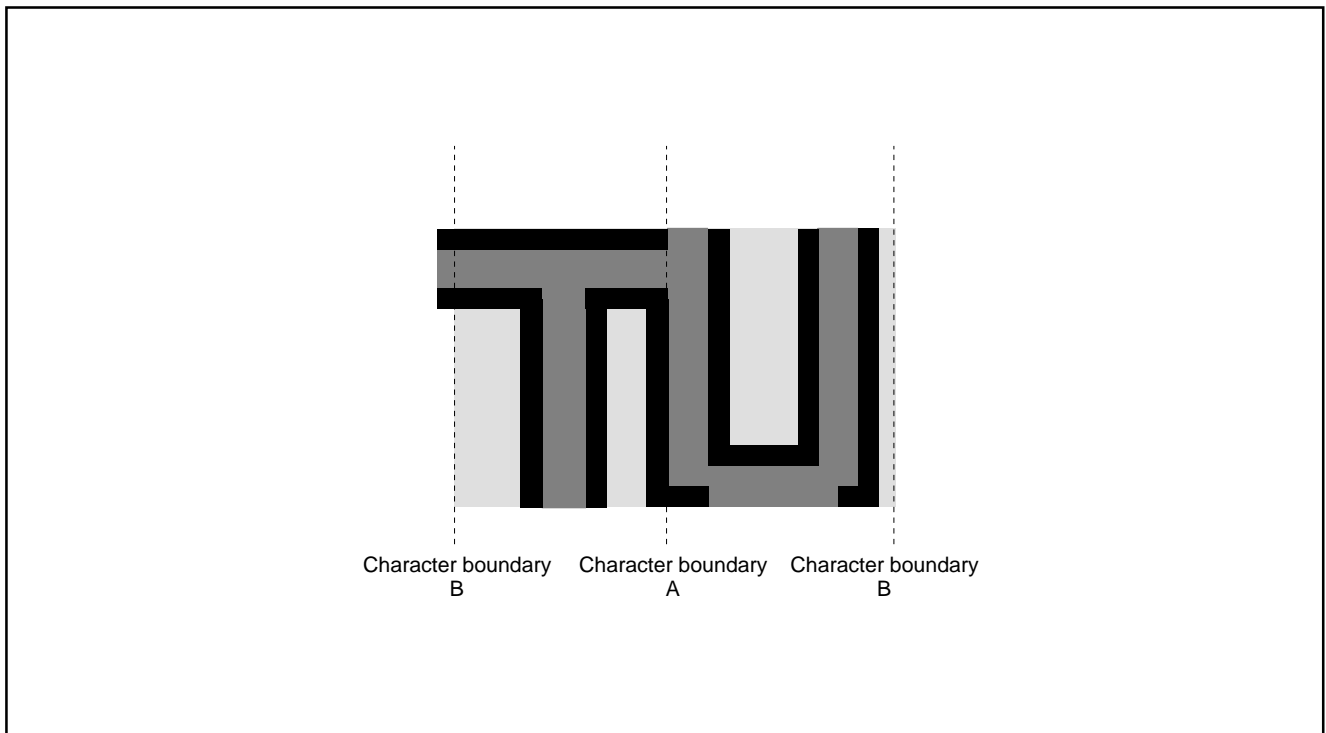

Fig. 8.11.23 Border Priority
**2 :** When the border dot overlaps on the next character font, the character font has priority (refer to Figure 8.11.23 A).
When the border dot overlaps the next character back ground, the border has priority (refer to Figure 8.11.23 B).
**3 :** The border in vertical out of the character area is not displayed (refer to Figure 8.11.23).